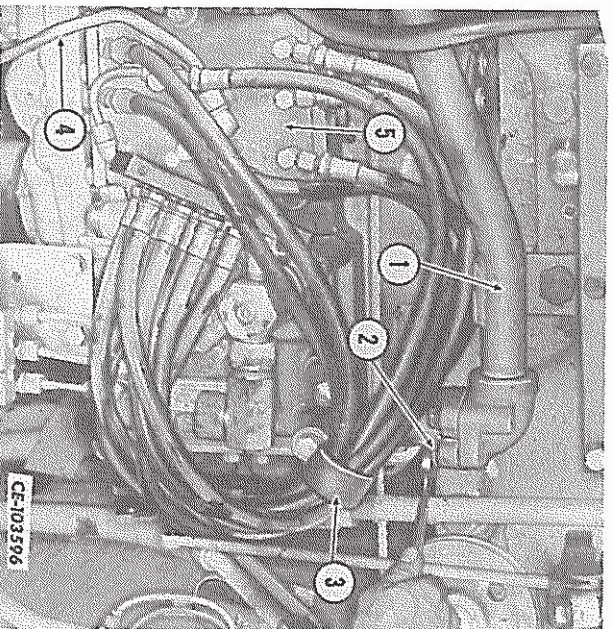

FIG. 10 – Disconnecting the Equipment Pump Outlet Hose
15. Disconnect the hydraulic equipment pump outlet hose (2, Fig. 10) at the pressure tube (1). Remove the hose.
16. Disconnect the hi-lo shifter tube (4, Fig. 10) at the shifter housing so it can be removed with the range selector valve (5). Disconnect the hose clamp (3) at the main regulating valve mounting bolt.